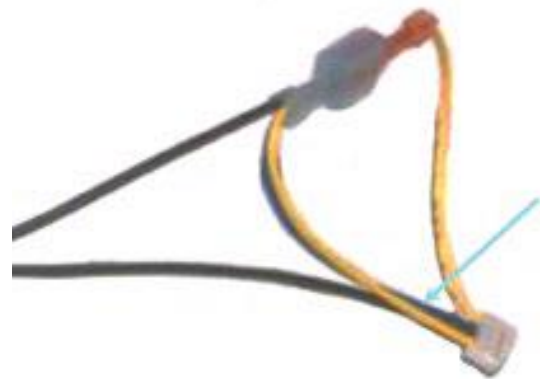

Figure 13 Jumper Cable with Blue Wire
1. Check to see if there is a blue wire in the jumper cable (See **Figure 13**).